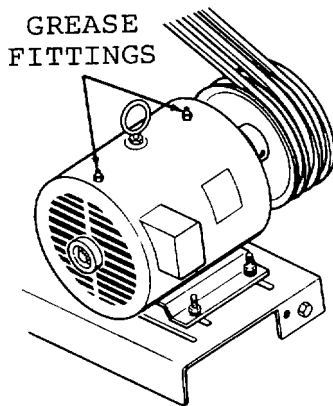

Figure 3-2. Motor Lubrication.
- d. Remove the oil filler cap (2).
- e. Fill the crankcase through the oil filler cap opening (3) with 2 1/2 quarts of oil (Appendix E, item 1).
- f. Check oil sight gage (4) to ensure that crankcase is properly filled with oil.
- g. Reinstall the oil filler cap (2).
- h. Refer to Figure 3-2. Lubricate motor with grease (Appendix E, item 6) annually.